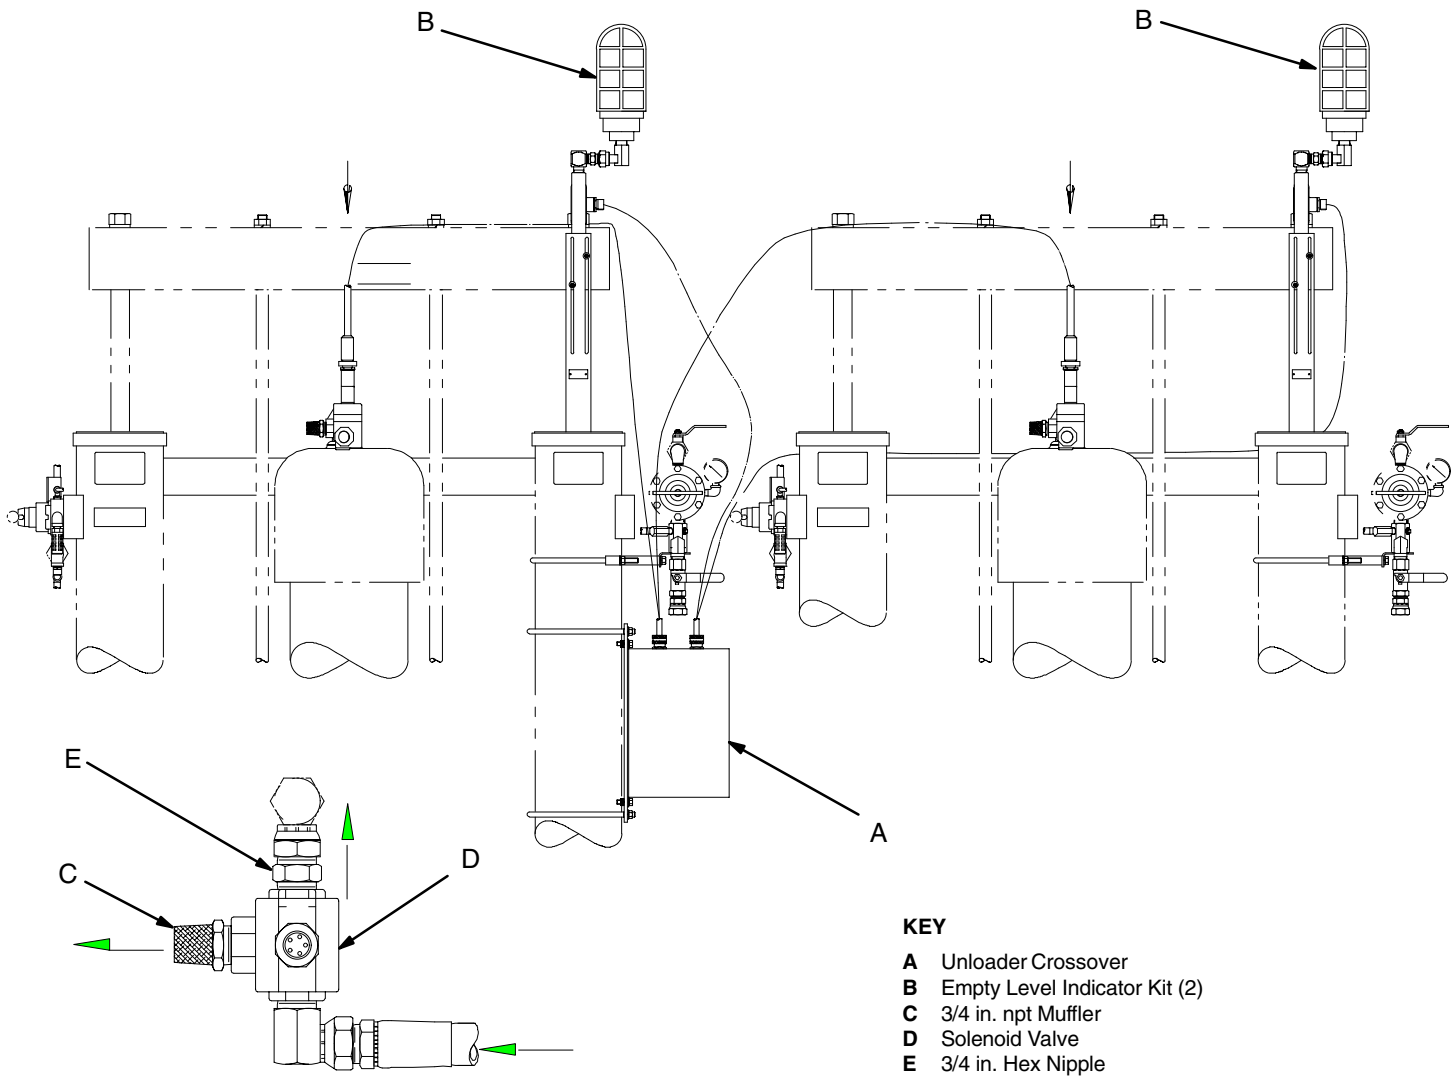

Fig. 4
The electrical crossover is setup as shown in Fig. 4 and the Unloader Crossover (1) must be connected to a 120 Volt, 60 Hz supply.
NOTE: The position of the empty level indicator kit (2) on the ram determines when the ram air motor is turned on and off. During operation, this position can be adjusted as desired. See Fig. 4.